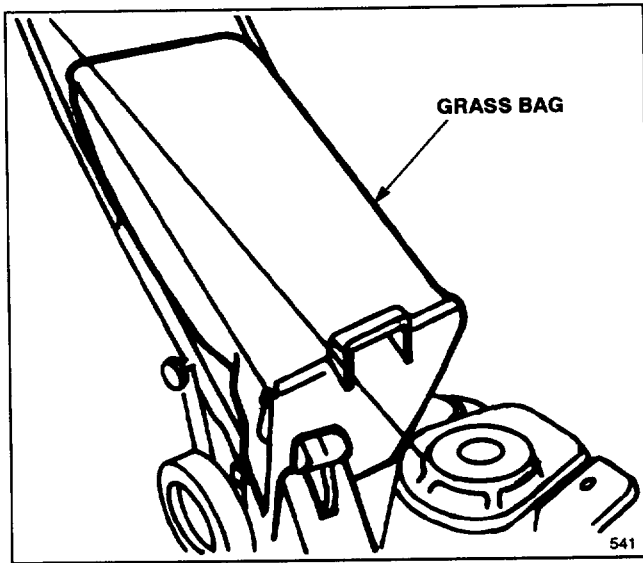

Figure 20
1. **Rear Bagging Kit, Model No. 59279**—Install discharge tunnel and rear mounting grass bag to convert the Recycler®II mower to a rear bagging mower (Fig. 20). Includes discharge tunnel plug.